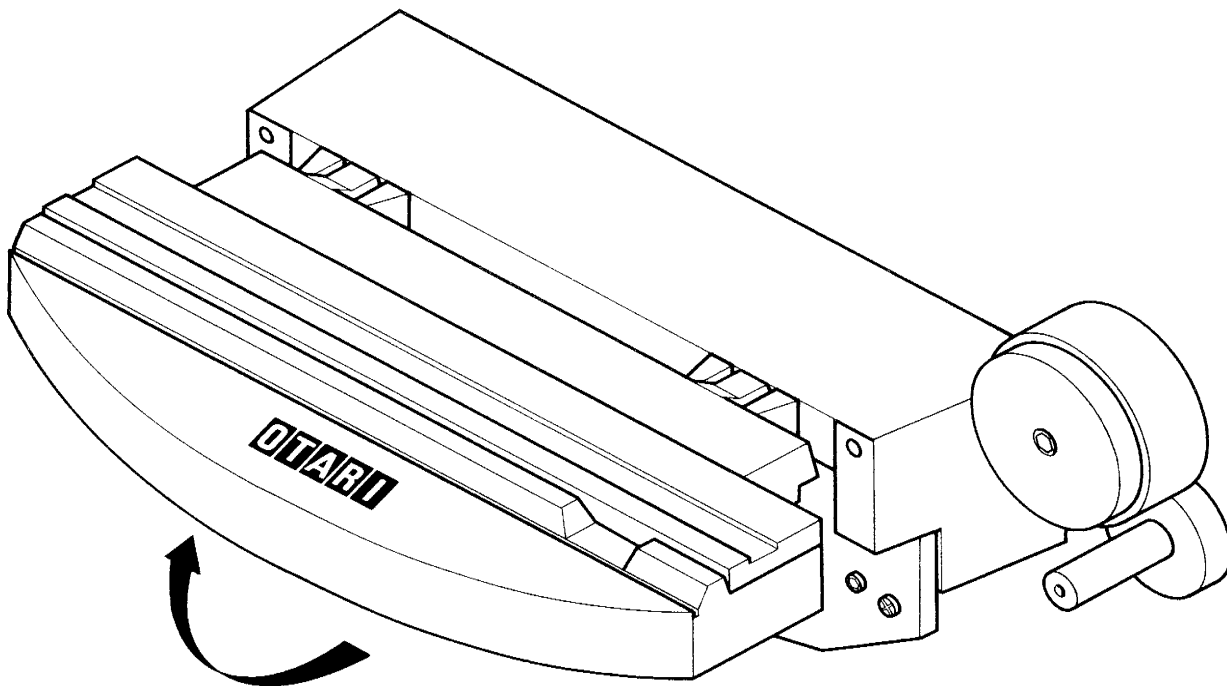

Figure 5-1 Lifting the Head Cover
- (1) Disconnect the power cable from the power supply.
- (2) Lift the head cover as shown in Figure 5-1.
2. Lift the head cover as shown in Figure 5-1 .